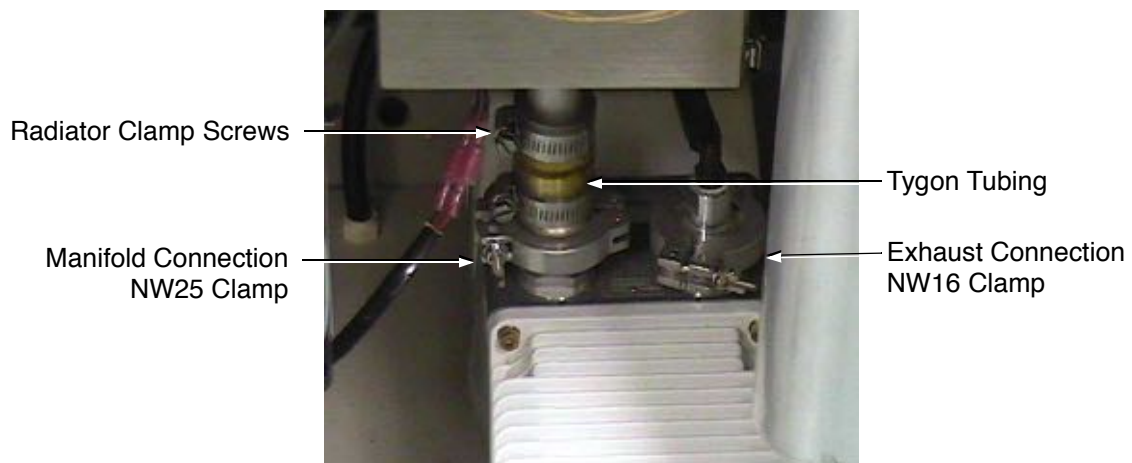

Figure B-12 Rough Pump Manifold and Exhaust Connections
6. If necessary, slide the Tygon tubing down over the connection and tighten the radiator clamps (Figure B-12).